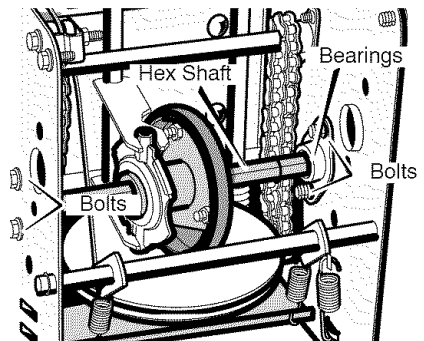

Figure 47
9. Remove the four **bolts** that hold the **bearings** on each side of the **hex shaft** (see Figure 47).